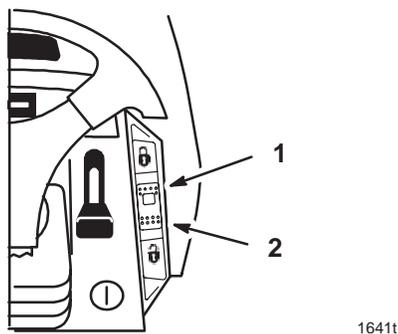

Figure 15
The cruise control is optional on some models. A three position Set-Lock (spring loaded), On and Off-Unlock dash switch (Fig. 15) controls the engagement. Cruise control maintains the traction control position without foot pressure. Cruise control is intended for operation in the forward direction only. Do not use cruise control in reverse.
1. Begin driving tractor: Refer to Driving Forward or Backward, Page 17. While holding your foot steady on the traction control, push the cruise control switch (Fig. 15) to the “SET”-“LOCK” position.
1. While holding your foot steady on the traction control, move the cruise control switch (Fig. 15) to the “OFF”-“UNLOCK” position.